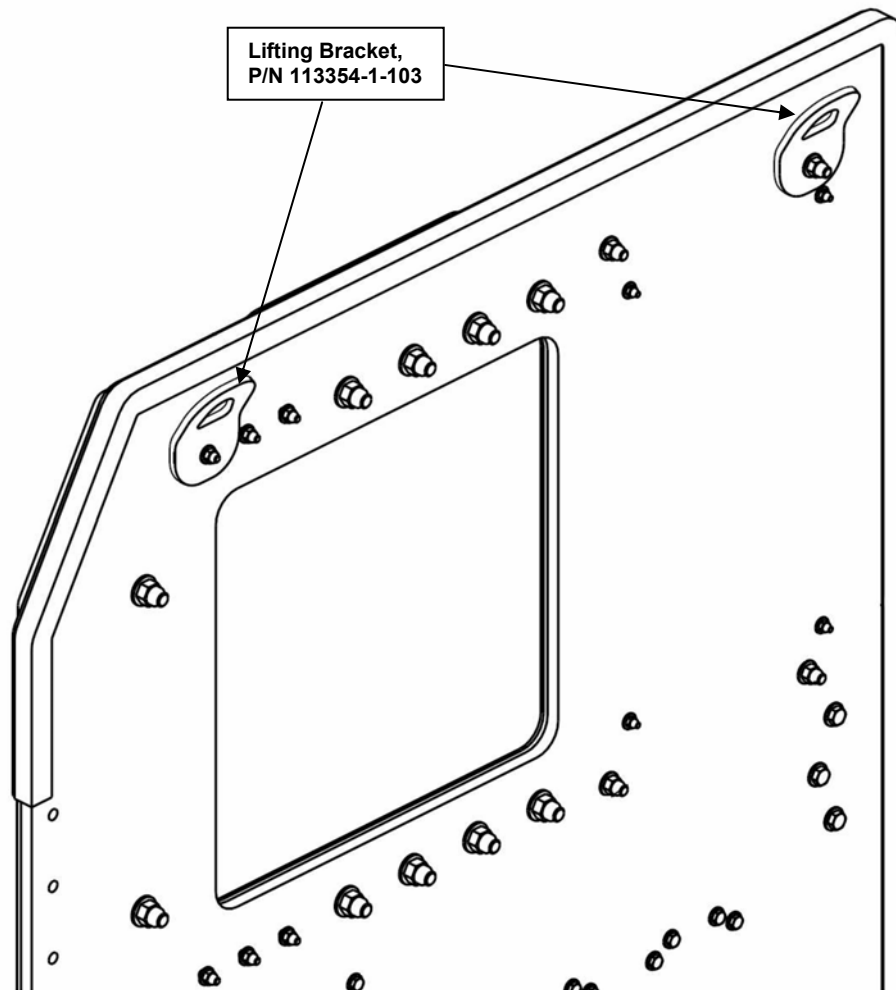

Figure 28. Door Lifting Bracket.
- w) Install a lifting strap through the Lifting Brackets (P/N 113354-1-103) located on top of the Armored Door Assembly (P/N 113310-1-103) (see Figure 28).